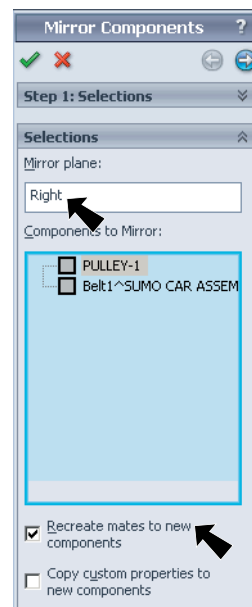

Fig. 14
**Check Recreate mates to new components,** Fig. 14